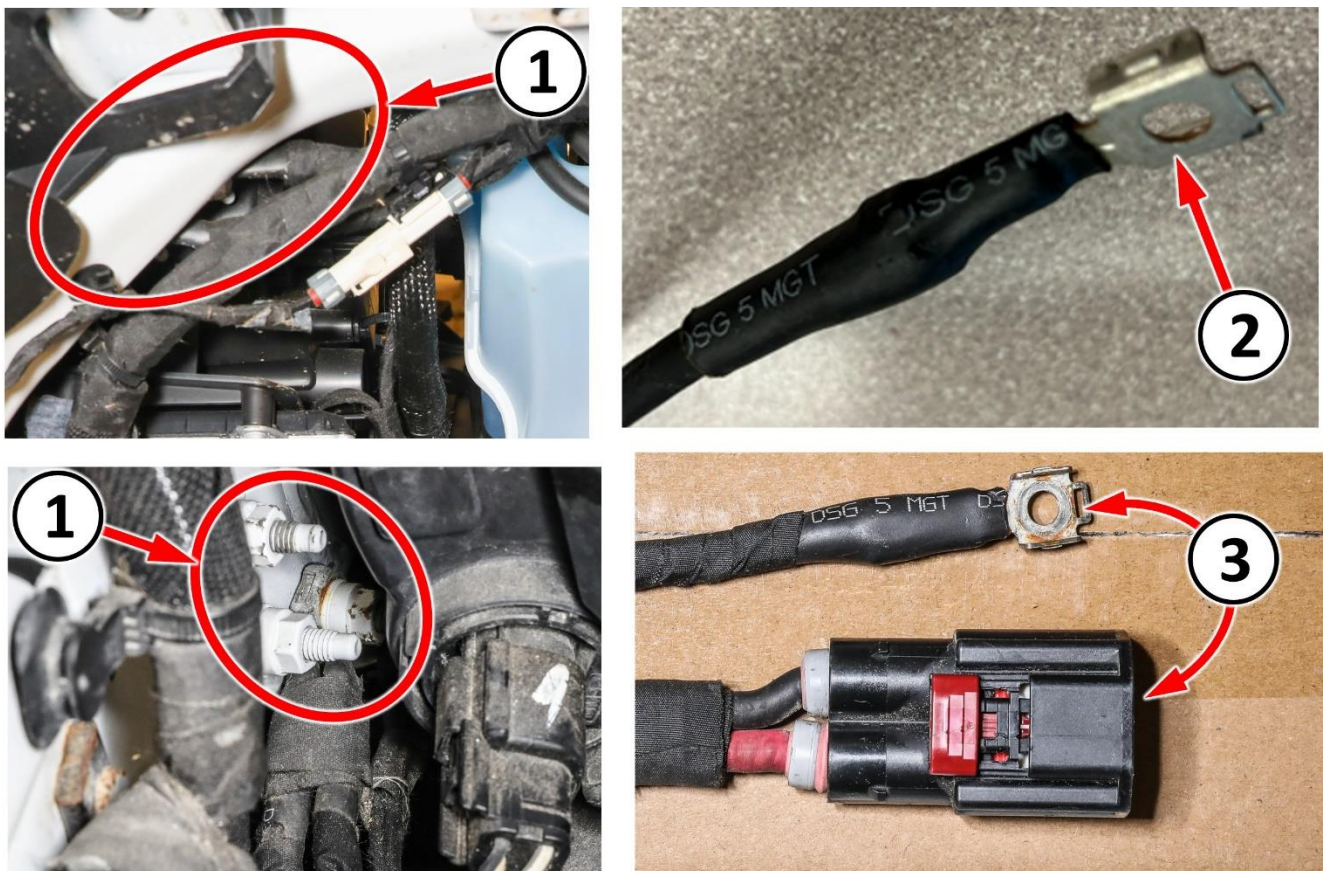

Figure C6 – EHPS ground G908A - Near Left Side Headlamp
23. Locate EHPS ground G908A on body of vehicle near the left-side headlamp on one of three studs (Figure C6). NOTE: The EHPS ground connection is often located on the lower stud but may vary depending on vehicle build configuration so MUST be verified.
24. Remove the ground nut and eyelet off the stud then verify continuity with a multimeter between G908A ground eyelet and EHPS connector D2704A cavity 1 black wire. Also verify the EHPS ground circuit is isolated from chassis ground (Figure C6). NOTE: If a continuity reading is still present between the EHPS ground circuit wire and chassis ground, the wrong wire has been selected.